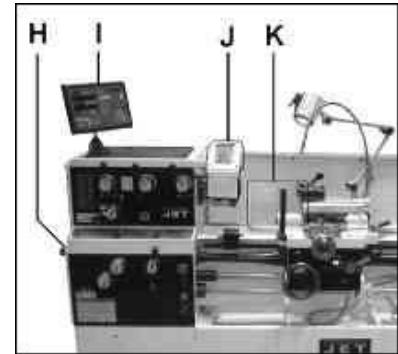

Fig 2-2
The pulley cover (H, Fig 2-2) and the chuck guard (J) are limit switch protected. They must be closed to operate the machine.